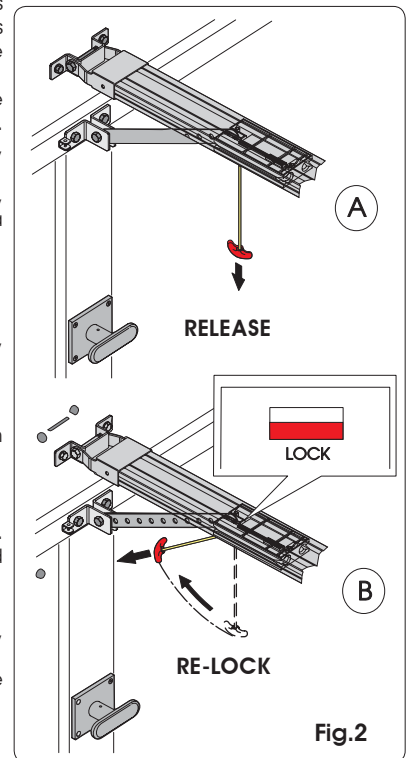

Fig. 2
- Release the operator, by pulling the release handle downward (Fig. 2 ref. A).
- Relock the automated system by pulling the handle horizontally (Fig. 2 ref. B) and make sure that, when you release it, the "LOCK" window under the carriage is red, to confirm correct resetting.